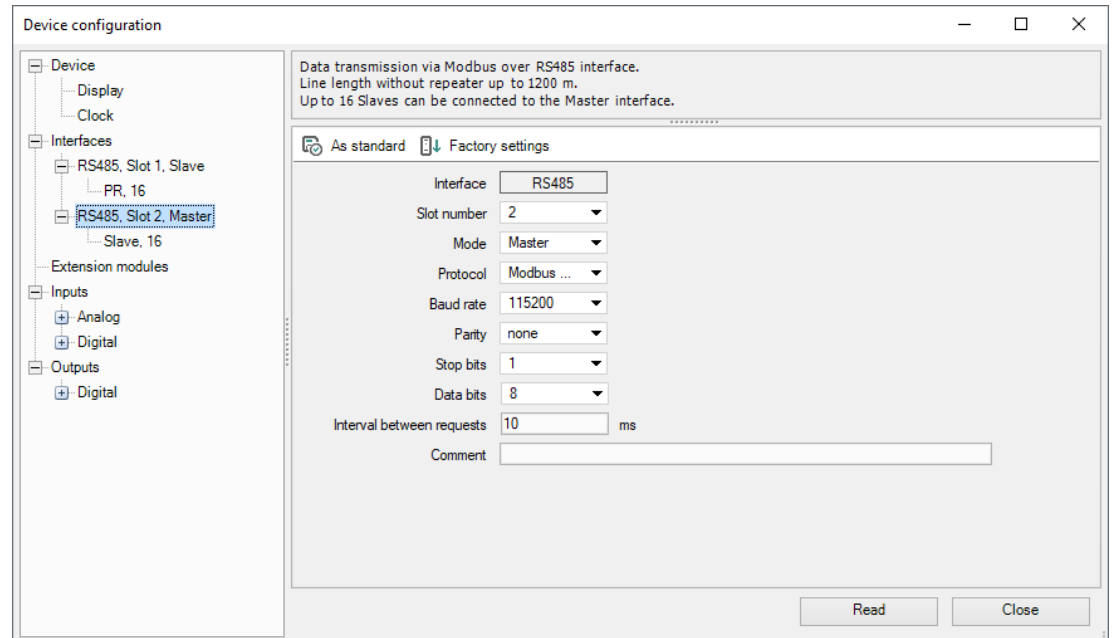

Fig. 4.9 Master configuration in Master mode
To add an interface, use the context menu of the node **Interfaces** in the configuration tree and select **Add interface > RS485** (Fig. 4.9). Change the mode to **Master** in the right window part.
- When setting the master parameter **Interval between requests** (Fig. 4.9), the number of slaves and the total number of requests must be taken into account. If the total polling takes actually longer than the set value, this parameter will be ignored.